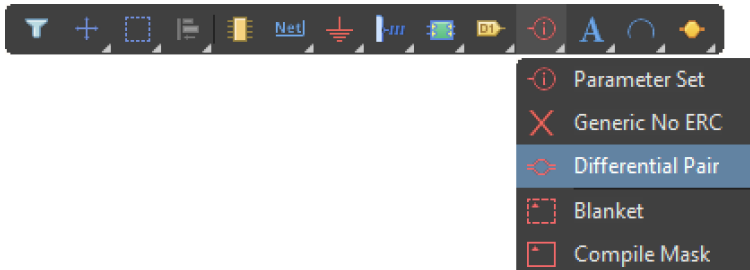
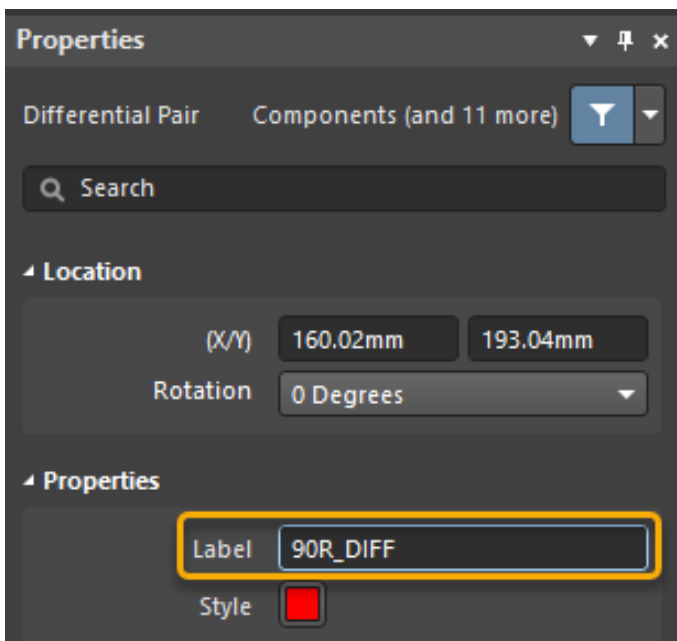

Figure 5. Differential Pair Directive
Figure 6. Label for Differential Pair Directive
9. Next, from the *Active Bar* select the **Differential Pair** directive Figure 5, before placing hit the **Tab** key to access the *Properties* panel and edit the Label to 90R\_DIFF, as shown Figure 6.